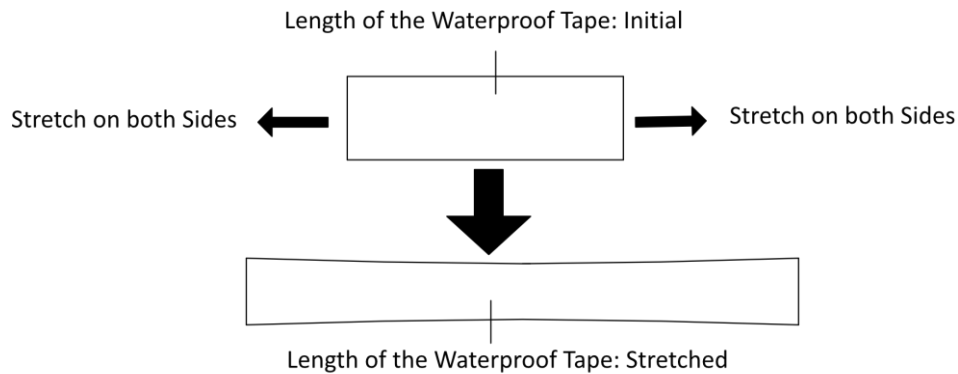

Figure 4-1 Stretch Waterproof Tape
Step 2 Stretch the waterproof tape to both ends to about 2 times the initial length, as shown in Figure 4-1.